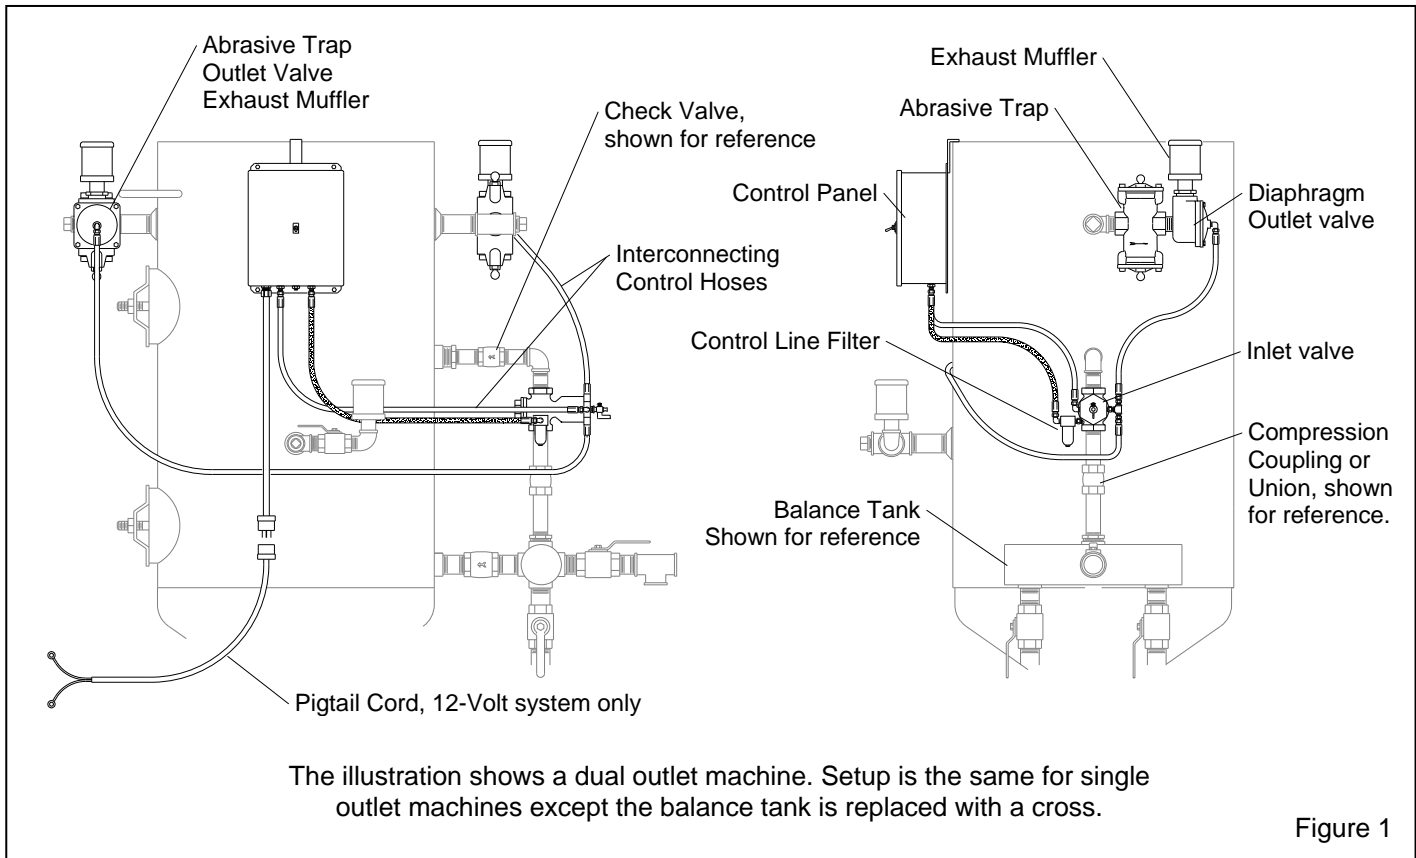

Figure 1
1.3.1 Components of cycle timer kit are shown in Figure 1. The kit includes:
Refer to Figure 1
**2.2** Install inlet valve and outlet valve assemblies as shown in Figure 1. The directional arrow on the inlet valve must face up toward the upper chamber. The directional arrow on the abrasive traps must point away from the blast machine.
1. Attach one leg of the 3-foot twinline hose to the filter on the inlet valve (shown as shaded hose in Figure 1). Connect the other end to fitting marked "Filtered Air In" at the bottom of the panel.